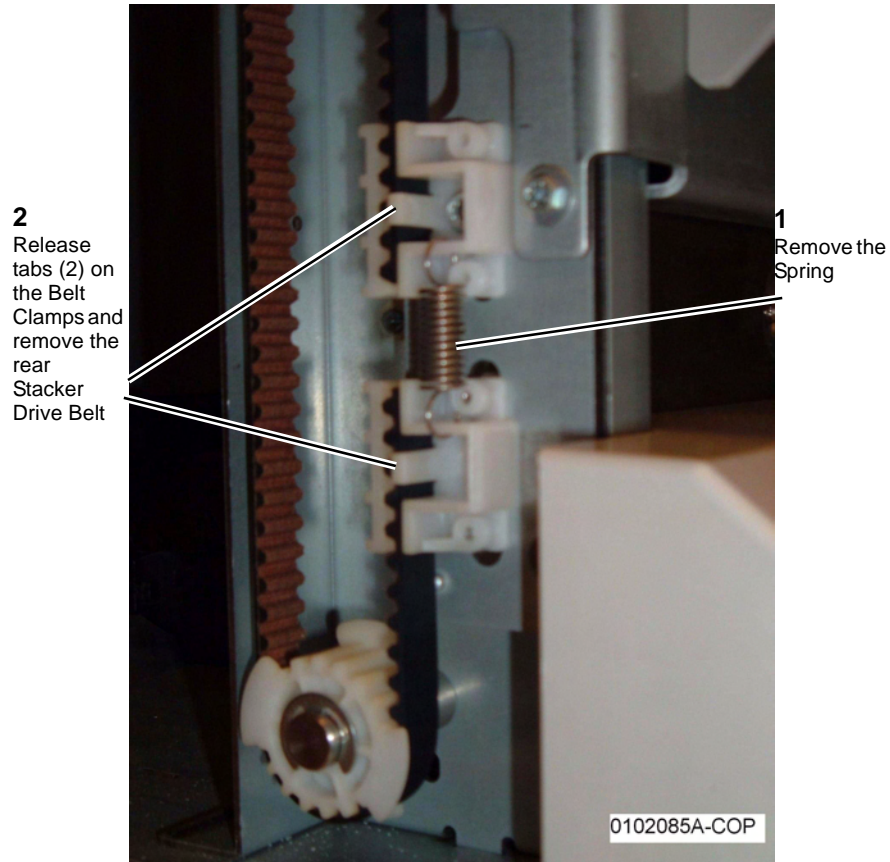
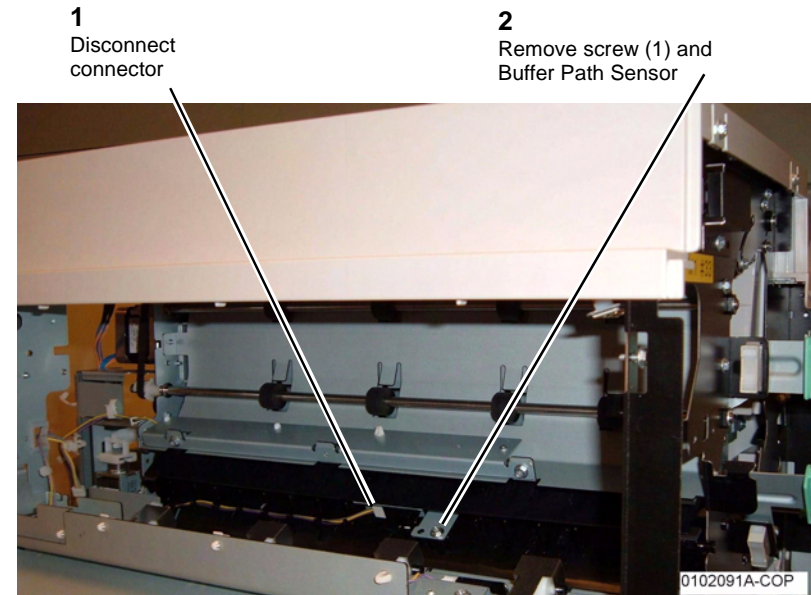

Figure 2 Removing the front Stacker Belt
Figure 1 Removing the Buffer Path Sensor
6. Remove the front Stacker Drive Belt (Figure 2).
1. Reinstall components in the reverse order of the removal procedure. Refer to Figure 1 and Figure 2 for Stacker Drive Belt positioning in the Belt Clamps.